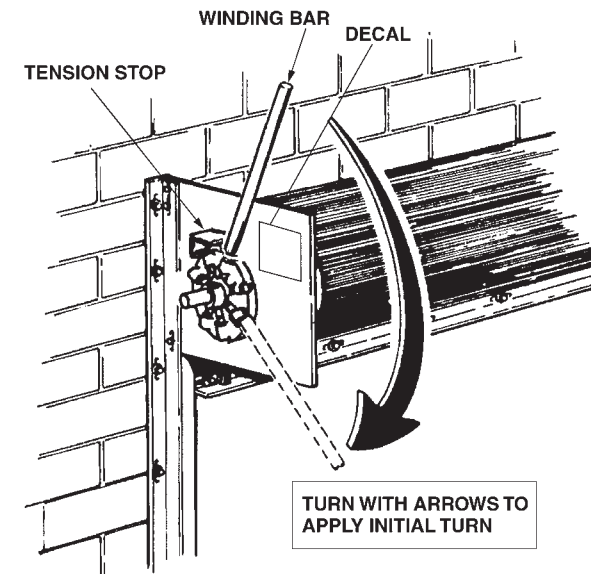

Fig 20
- Wind Tension Wheel in the direction shown in Figure 20. Apply the Initial Turns shown on the tension headplate decal and on the "Installation Data" sheet.
- After proper tension is applied, install the tension pin into the tension wheel adjacent to the tension stop. Use two winding bars to allow the tension wheel to rotate until the pin is against the tension stop. See Fig 20.